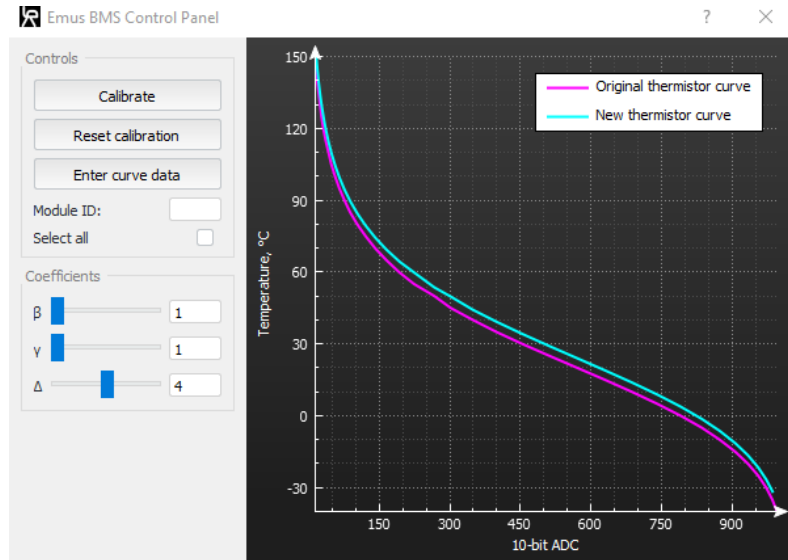

Figure 5.1 External temperature sensor calibration window
- Click on "Calibrate External Temperature ..." button. A window showed in Figure 5.1 should appear;